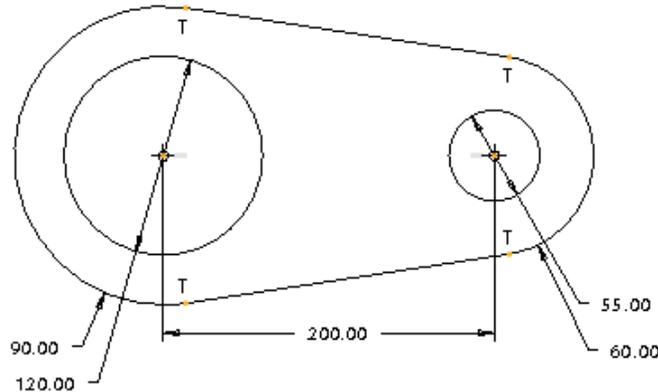

Figure 3-22 Sketch imported and placed in the current file
- c. Import the section by using the **File System** button, refer to Figure 3-22.
5. Choose the **Refit** button from the **Graphics** toolbar. The sketch, similar to the one shown in Figure 3-22, is displayed in the drawing area.